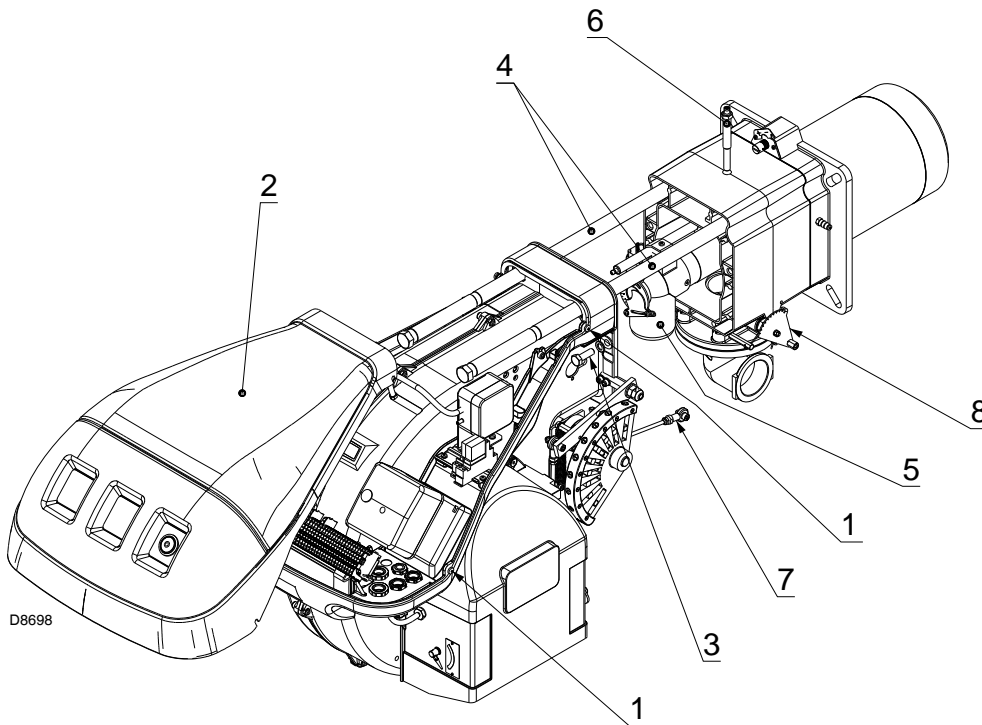

Fig. 40
Check the gas outlet holes for the ignition phase (in the distributor of the combustion head) are free of impurities or rust. If in doubt, disassemble the elbow 5)(Fig. 40).
- Loosen the screws 1) and remove the hood 2)(Fig. 40).
- Replace the screws 3)(Fig. 40) and carefully pull the probe and electrode cables out until they are slightly taut.